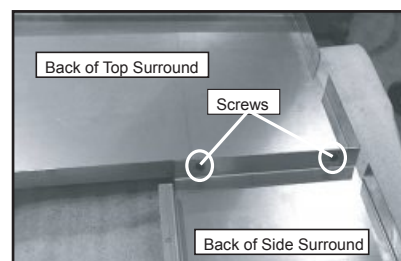

Figure 20.3
1. Secure the top panel to the surround sides with the screws provided. **Figure 20.3**